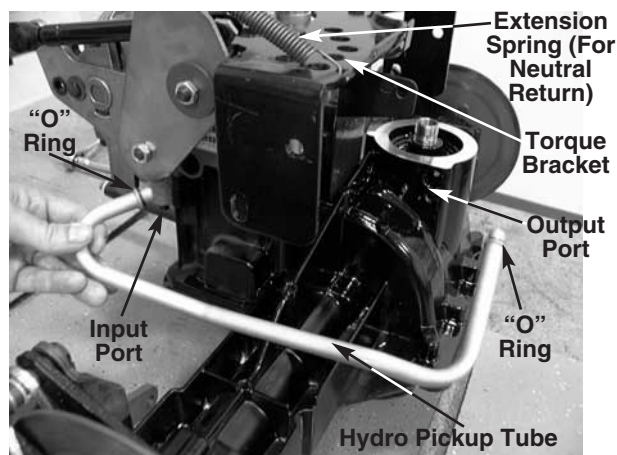

FIGURE 5.
7. Remove the hydro pickup tube and inspect the tube for any contamination that would restrict the hydro oil flow. See figure 5.
8. Inspect the "O" ring at each end of the hydro pick-up tube. If damaged, replace. See figure 5.
9. Inspect the output and input ports where the hydro pickup tube clamps on. See figure 5.
10. Remove the extension spring from the torque bracket. See figure 5.